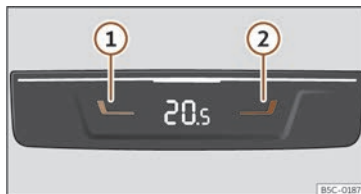

Fig. 133 In the rear part of the centre console: controls for the rear seats.
- Press buttons  and  >>> **Fig. 133** to adjust the temperature of the rear zone.